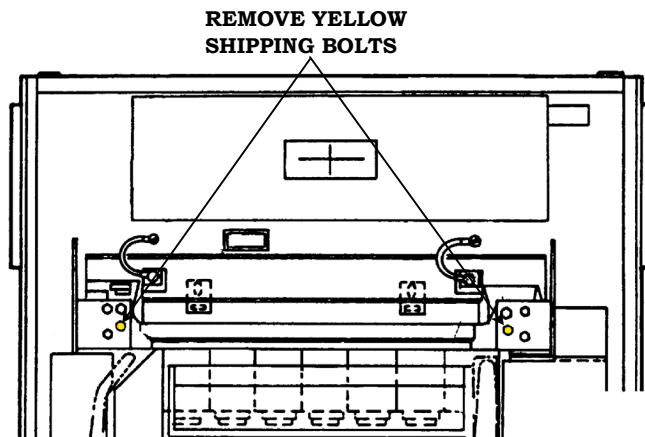

Figure 2-8
1. On each side of the upper tractors is a block with several bolts through it. Remove the front yellow bolt located next to the upper tractor on each side (indicated as shaded in Figure 2-8).